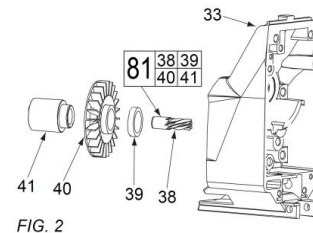

FIG. 2
Remove Motor Pinion Assembly (81) from Gearcase (33) by placing a 3/32" pin punch into the center counter bore of Pinion (38) and gently tapping assembly until removed from Gearcase (33). See Fig. 2